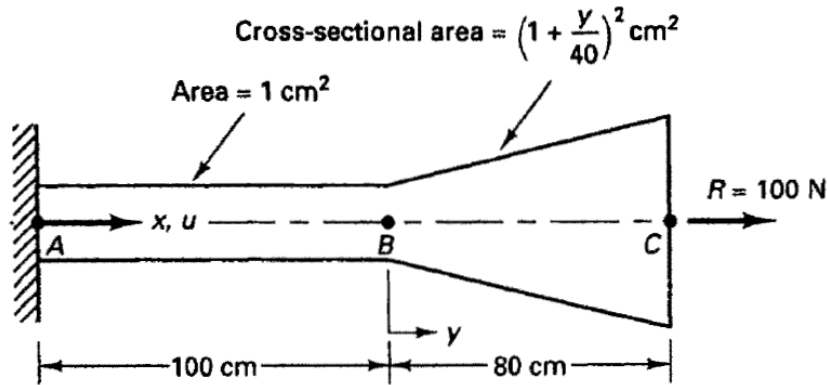

FIGURE 2A
- 2A. Consider a simple bar fixed at one end ($x = 0$) and subjected to a concentrated force at the other end (at $x = 180$) as shown in **figure 2A**. 05 M